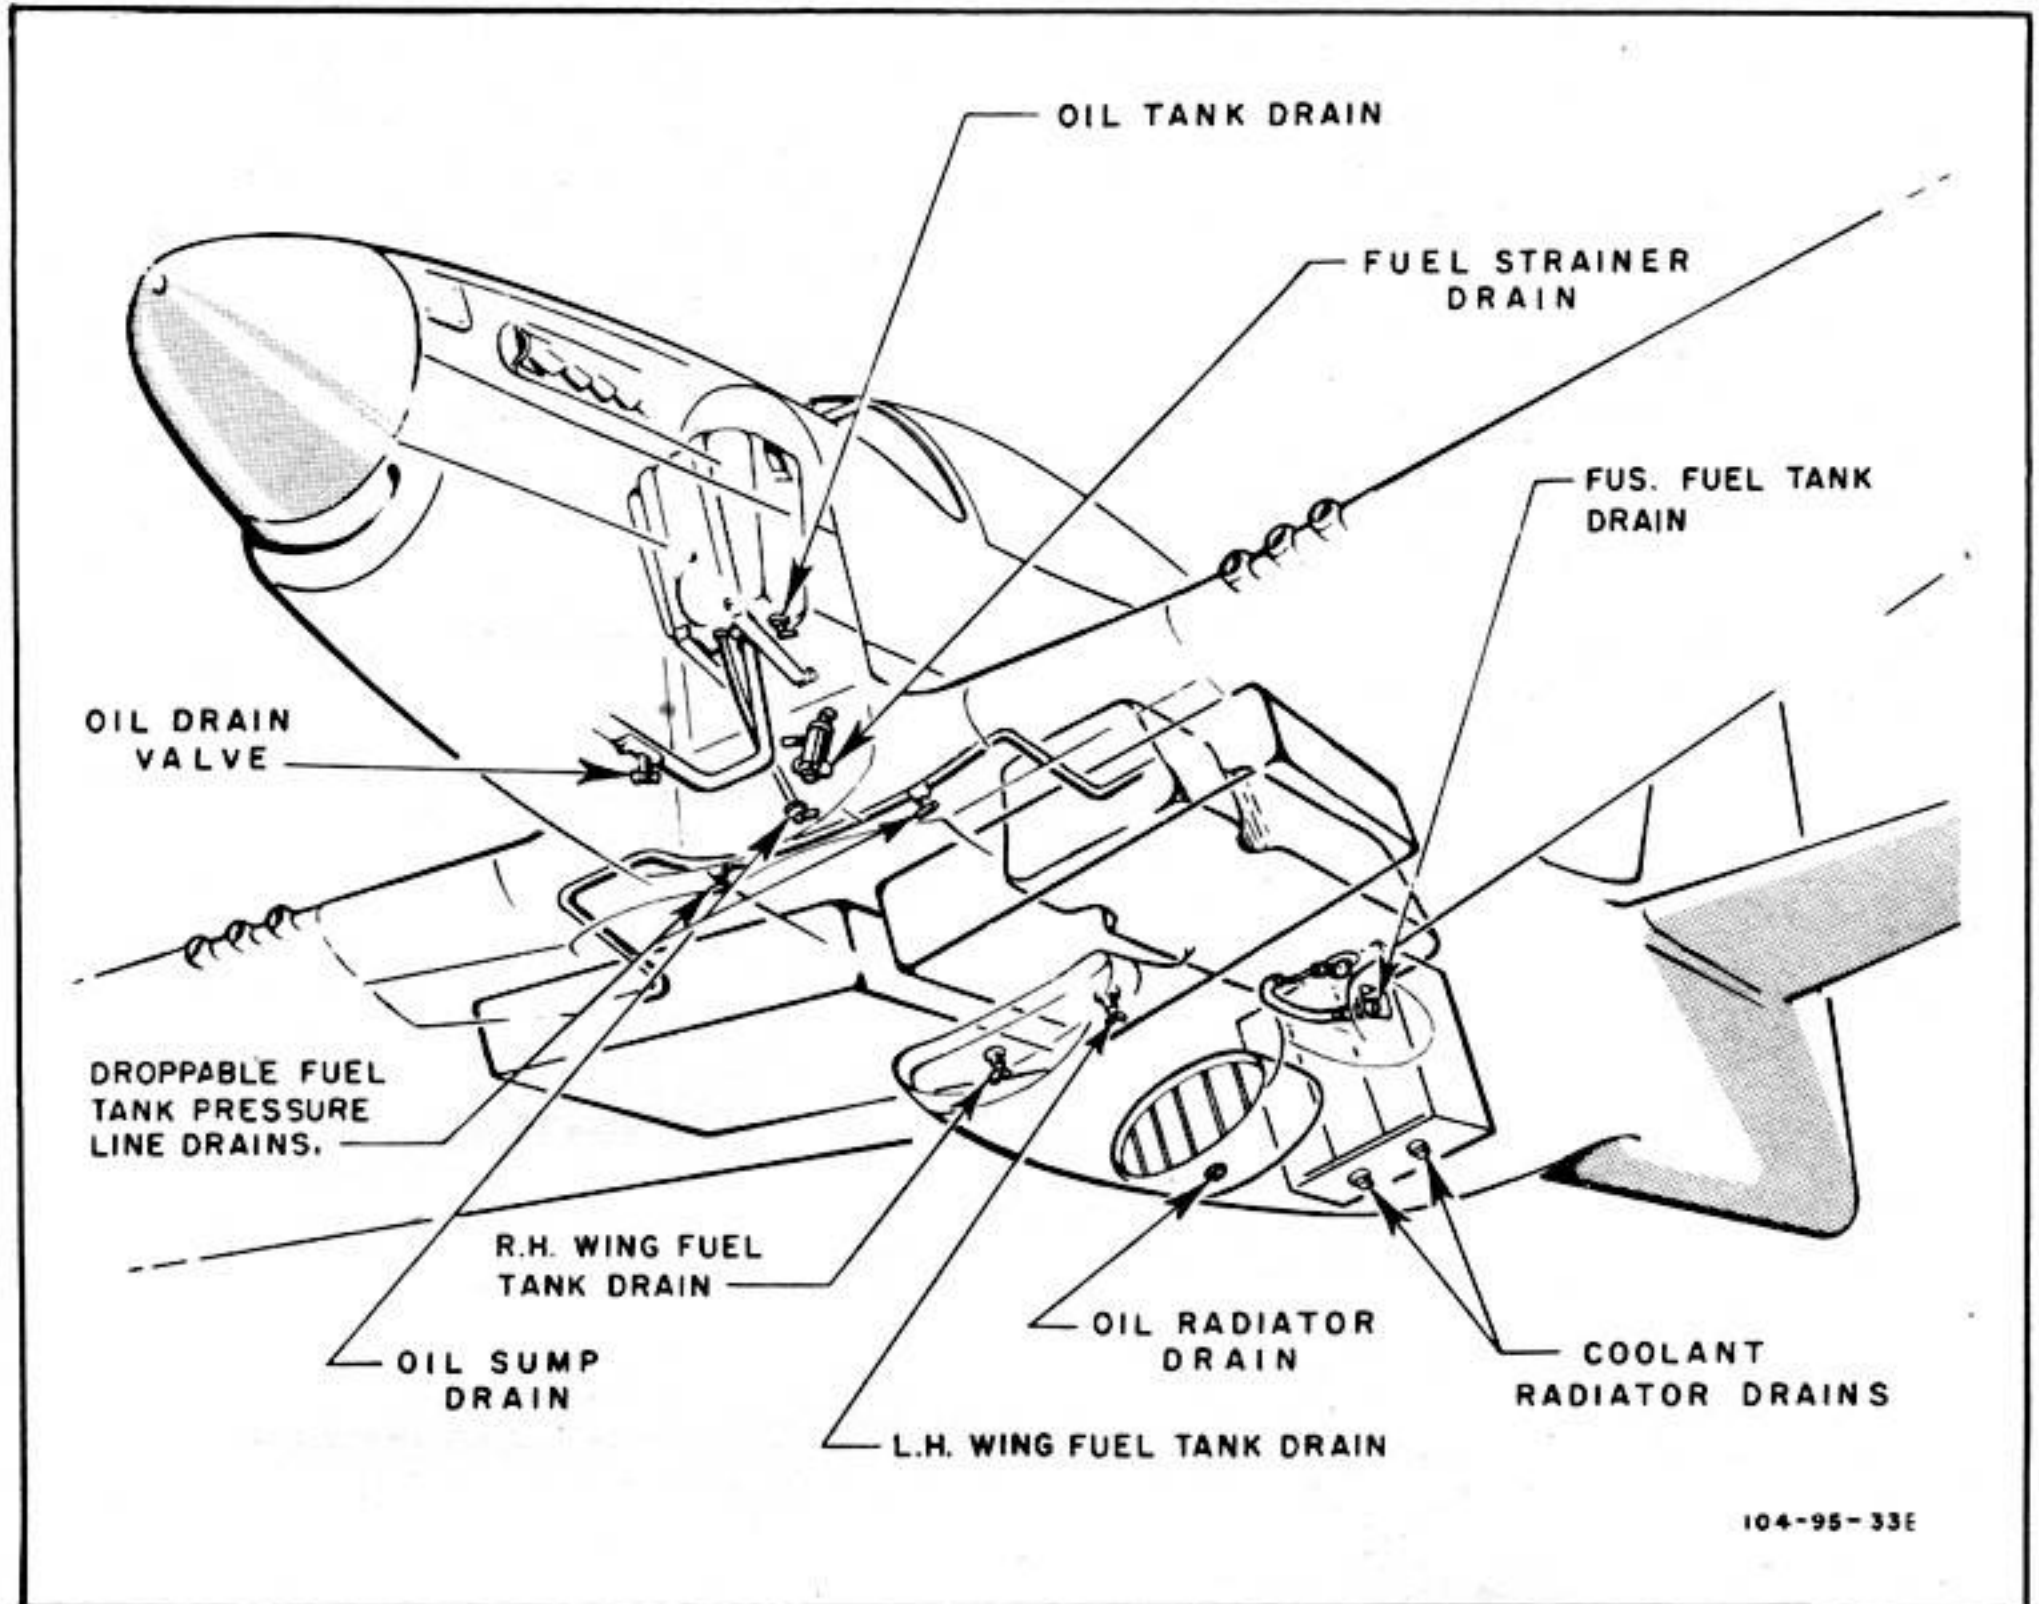

Figure 67—Fuel, Oil, and Coolant Drains
7. Drain any fuel which has settled in aft end of tanks by opening the drain cocks on the aft inboard end of each tank. (See figure 67.)
underside of the fuselage. (See figure 67.) After draining the tank, tighten and safety the drain cock.
1. Remove the drain plugs from the coolant pump and engine cooling section of the radiator. (See figure 67.) The pump drain plug is accessible through the lower left engine cowling. A door beneath the coolant radiator pro-
1. Remove the drain plug from the aftercooling section of the radiator. (See figure 67.) A door beneath the coolant radiator provides access to the aftercooling system drain plug on the right-hand side of the radiator.
2. Remove the aftercooler expansion tank filler cap to allow air to enter the system as the coolant drains. The filler cap is accessible through the door of the top left engine cowling just forward of the oil tank filler cap access door. (See figure 67.)